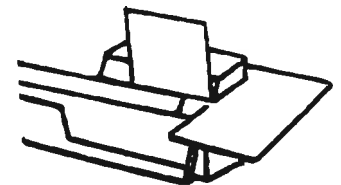

Figure 4
2. Position the portion of the workpiece to be bent under a keeper at the end of the magnetic base. Allow portion to be left flat to extend beyond the end. (Figure 4)